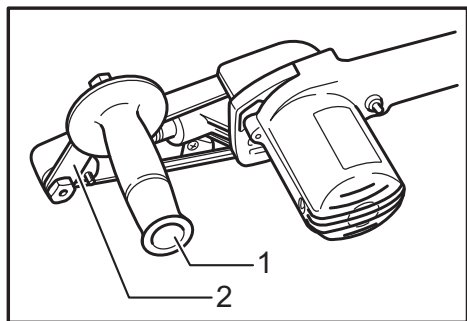

Fig.2
► Fig.2: 1. Side grip 2. Grip holder